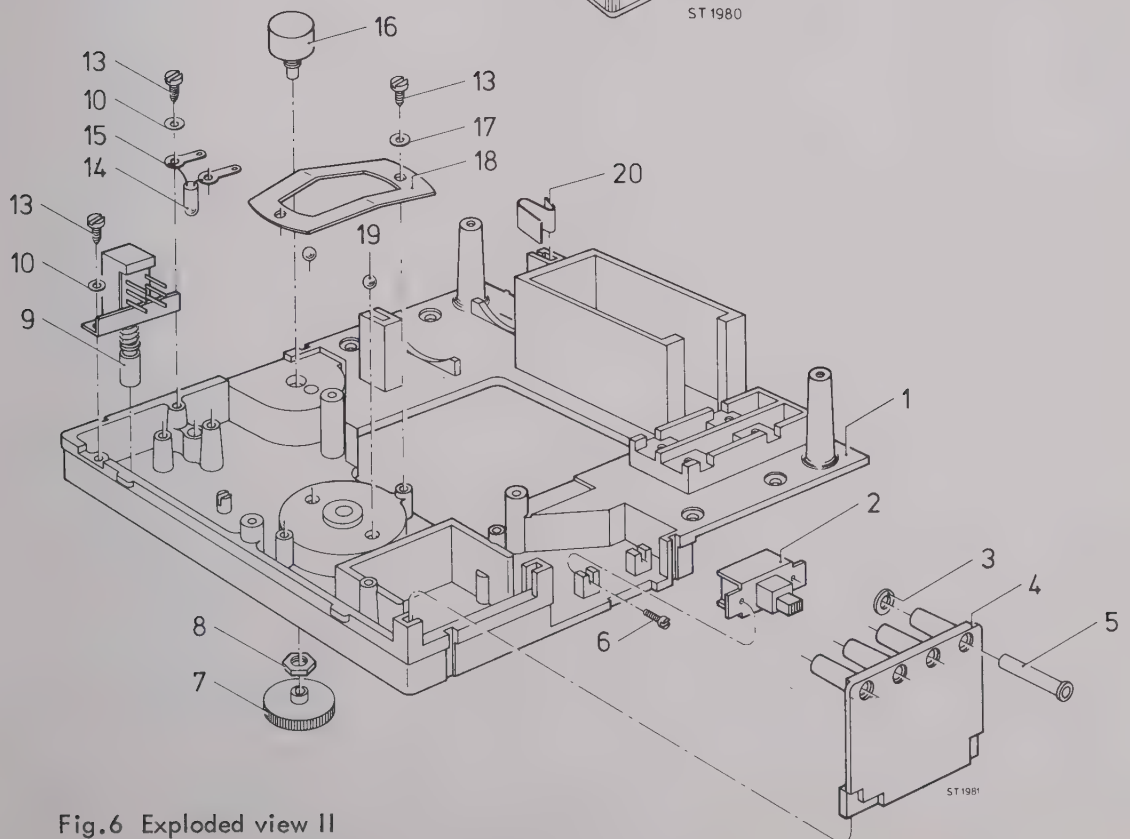

Fig.6 Exploded view II
5.3 Removing the two printed circuit boards UA and UB (see exploded view II fig 6, page 9)
5.4 Removing range selector knob (exploded view II fig 6, page 9)
5.5 Removing the switch sliders (exploded view II fig 6, page 9)
5.6 Removing the current transformer T1 (exploded view II fig. 6, page 9)
5.7 Replacing of the fuses VL1 (1A) and VL2 (6.3A) (exploded view II fig. 6, page 9)